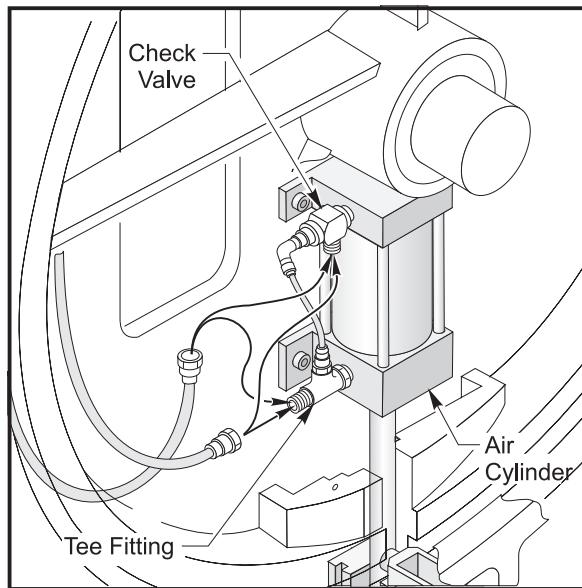

Figure 3-68 Airline connection location
5. At the top of the ATC assembly, reverse the two air lines going from the solenoid valve to the air cylinder. See Figure 3-68. Reconnect the air supply line at the rear of the machine. (The tool pocket holder in the tool change position should move down)